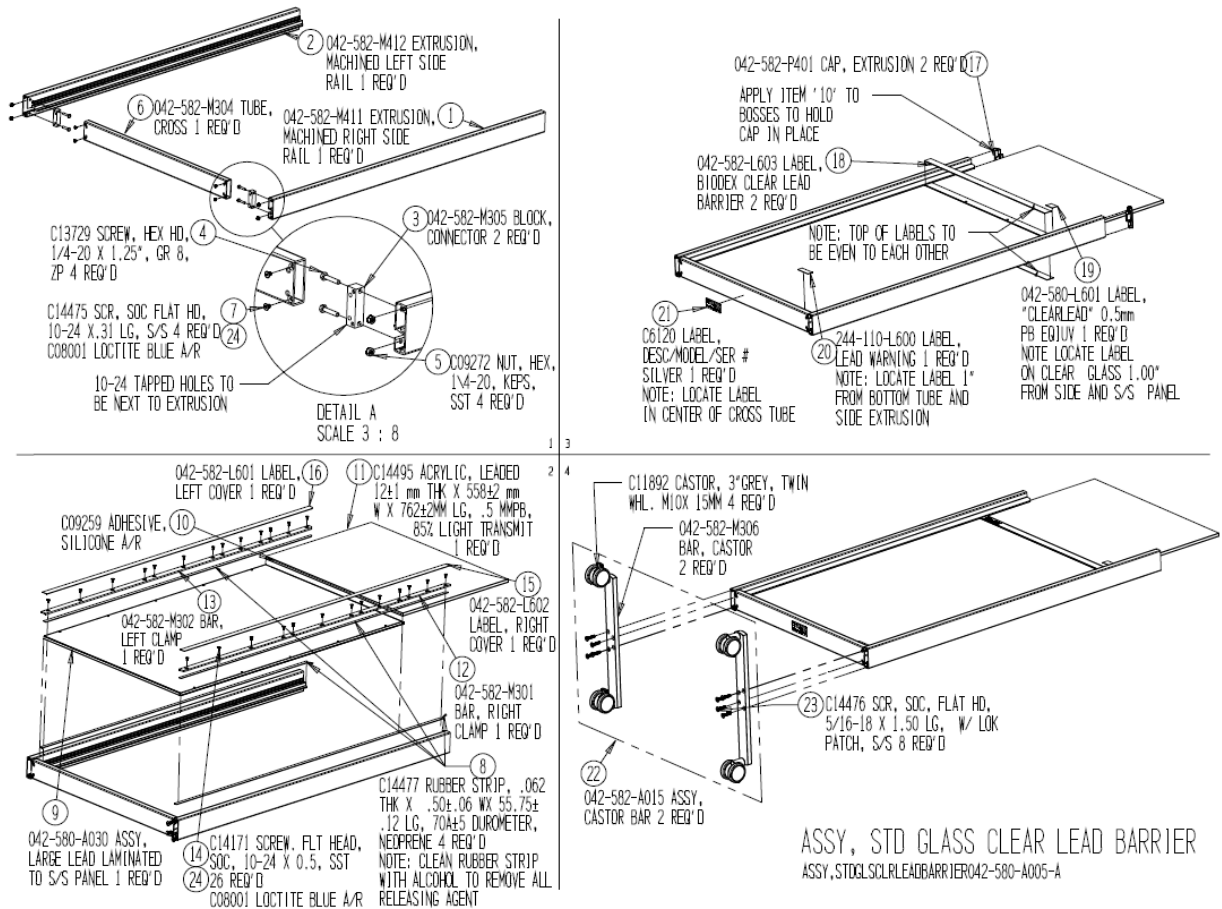

Figure 2.2. Standard Clear-Lead Mobile Barrier Assembly Drawing
3. Using the provided 1/4" Allen wrench, insert the flat-head screws as illustrated on the drawing (see Figure 2.2).